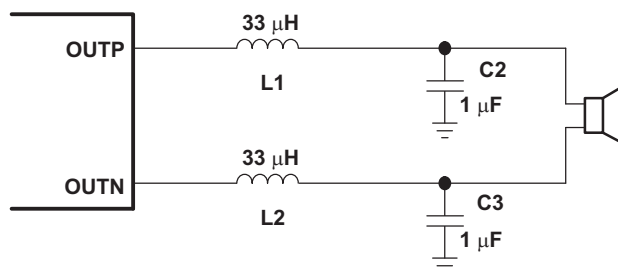
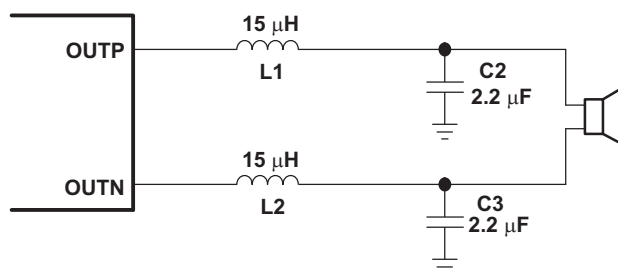

Figure 17. Typical LC Output Filter, Cutoff Frequency of 27 kHz, Speaker Impedance = 8 Ω
Figure 18. Typical LC Output Filter, Cutoff Frequency of 27 kHz, Speaker Impedance = 4 Ω
- The ferrite EMI filter (Figure 19) should be placed as close to the output pins as possible for the best EMI performance. The LC filter (Figure 17 and Figure 18) should be placed close to the outputs. The capacitors used in both the ferrite and LC filters should be grounded to power ground.